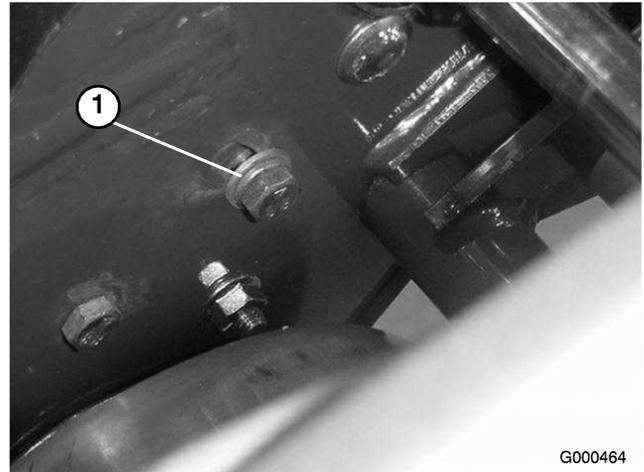

Figure 40
- A. On back side of side plate, loosen the capscrew securing the idler bracket to the side plate (Figure 40).